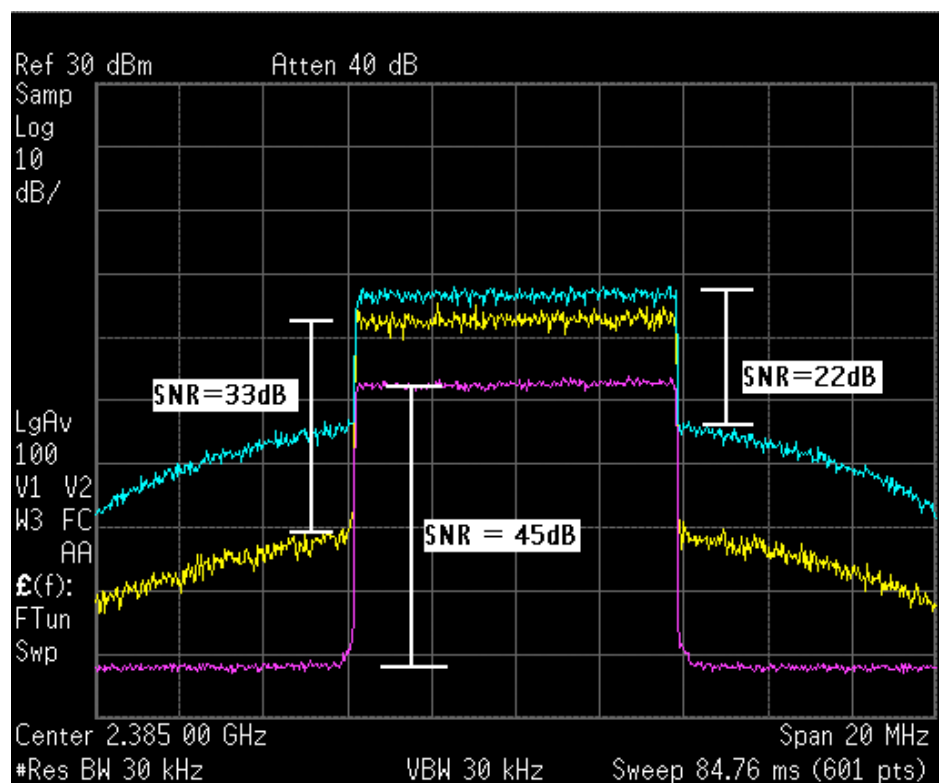

Figure 1: OFDM signal degrading in an amplifier
These higher PAR levels translate to higher power being needed in an amplifier. That can be seen as inefficiency, as the heavy lifting is being done at lower power levels, or as a reasonable cost of increasing the density of the data. Crest Factor Reduction (CFR) schemes that pre-clip the signal can reduce the PAR for some types of modulation, but even so, complex modulated signals will still degrade slowly over a wide power range as the signal peaks are increasingly clipped in the amplifier (see fig. 1). This causes progressively increasing digital errors and also pushes energy into adjacent channels, creating „noise“. It is important to remember that PAR for complex-waveform signals can vary with the data payload sent, so try to test your system with a worst-case data set. Pseudo-noise (PN) data produced by a signal generator may not represent your worst- case signal.
Figure 1 shows an OFDM signal degrading in an amplifier as the Peak power approaches and crosses over the P1 compression point. The lowest trace is an uncompressed signal with better than a 45 dB signal-to-noise ratio (SNR). The middle Trace 2 shows the input signal 10 dB higher than for Trace 1, with signal peaks just touching the P1 point. While the gain across the data channel has increased by 10 dB, Intermodulation distortion has created „shoulders“ of noise, reducing the SNR to 33 dB. Increasing the drive by only 5 dB in Trace 3 shows that the power in the adjacent channels has increased by 16 dB, and SNR has been reduced to about 22 dB. Your specific application will determine what level of SNR is required or can be tolerated.